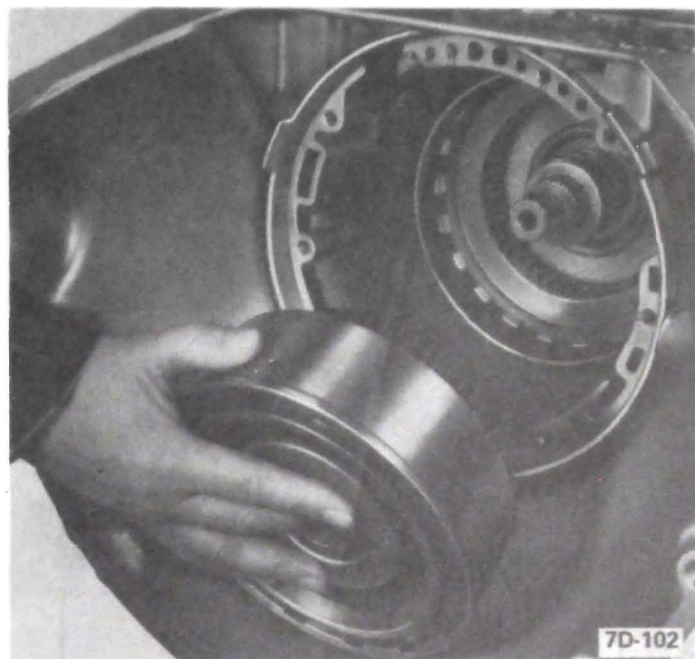

Figure 7D-50
9. Remove sun gear shaft. See Figure 7D-52.